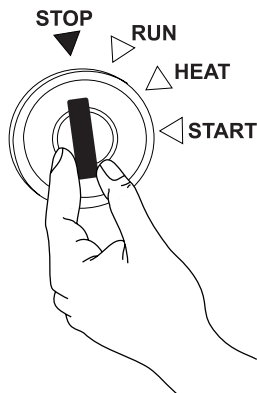

Figure 43. Starter Switch (STOP)
5. Turn the **ignition key** counterclockwise to the **STOP** position (Figure 43) and remove the key from the **starter switch**.
1. Quickly turn the **ignition key** counterclockwise to the **STOP** position (Figure 43) and remove the key from the **starter switch**.